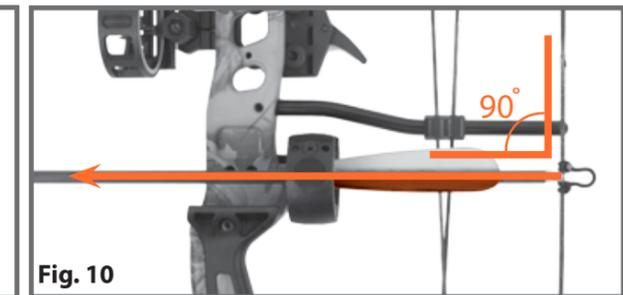

Fig. 10
- Adjust the arrow rest so that the arrow when loaded is perpendicular (90°) to the string and the arrow is level and pointing down range (see figure 10).
- Slide the D-Loop up or down on the string to a position where the Arrow shaft is horizontal and is perpendicular to the riser of the bow. The nock of the arrow should be seated snug in between the two knots, and rest on the bottom knot of the D-Loop (see figure 10).
- Be sure that the arrow is horizontal using the Berger Holes as a horizontal reference (see figure 10).